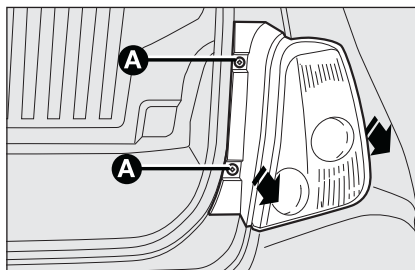

fig. 26
- unscrew the two fastening screws **A-fig. 26** and extract the light cluster axially without rotating it;